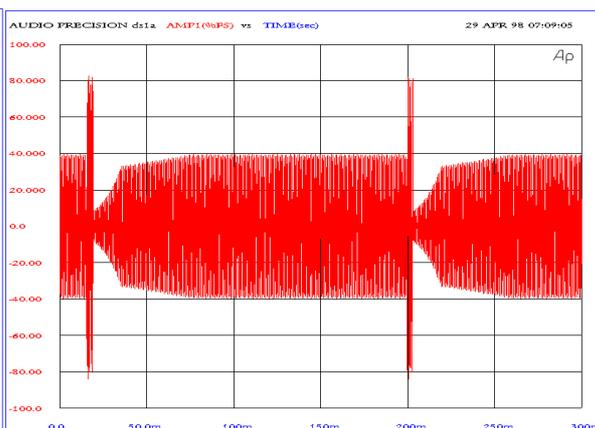

Fig. 8
**Fig. 8** The burst is now longer which gives it more influence on the average measurement (averaging off the signal). First there is a Release Fast portion followed by a short segment of Release Slow.